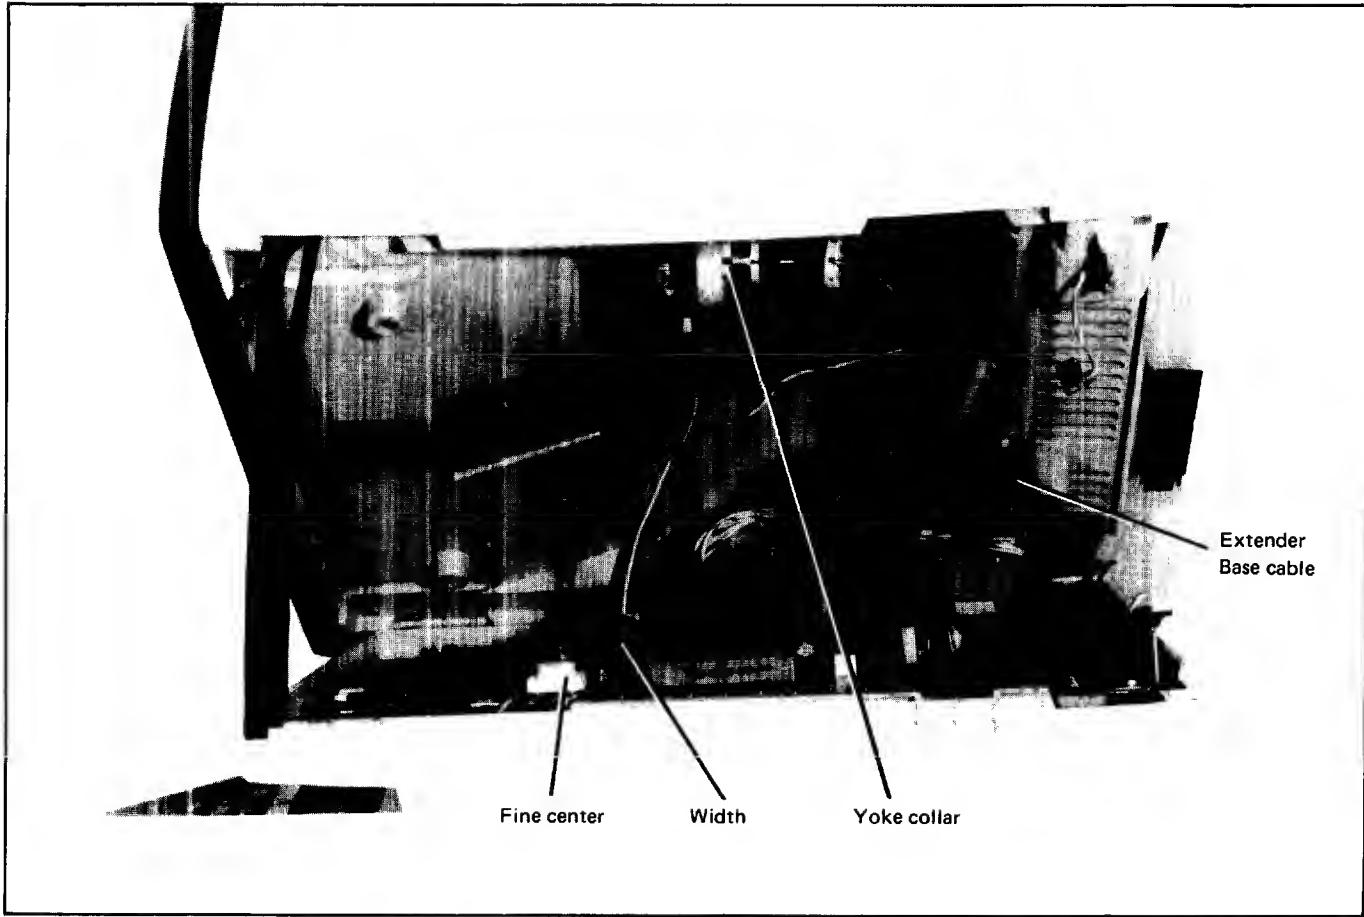
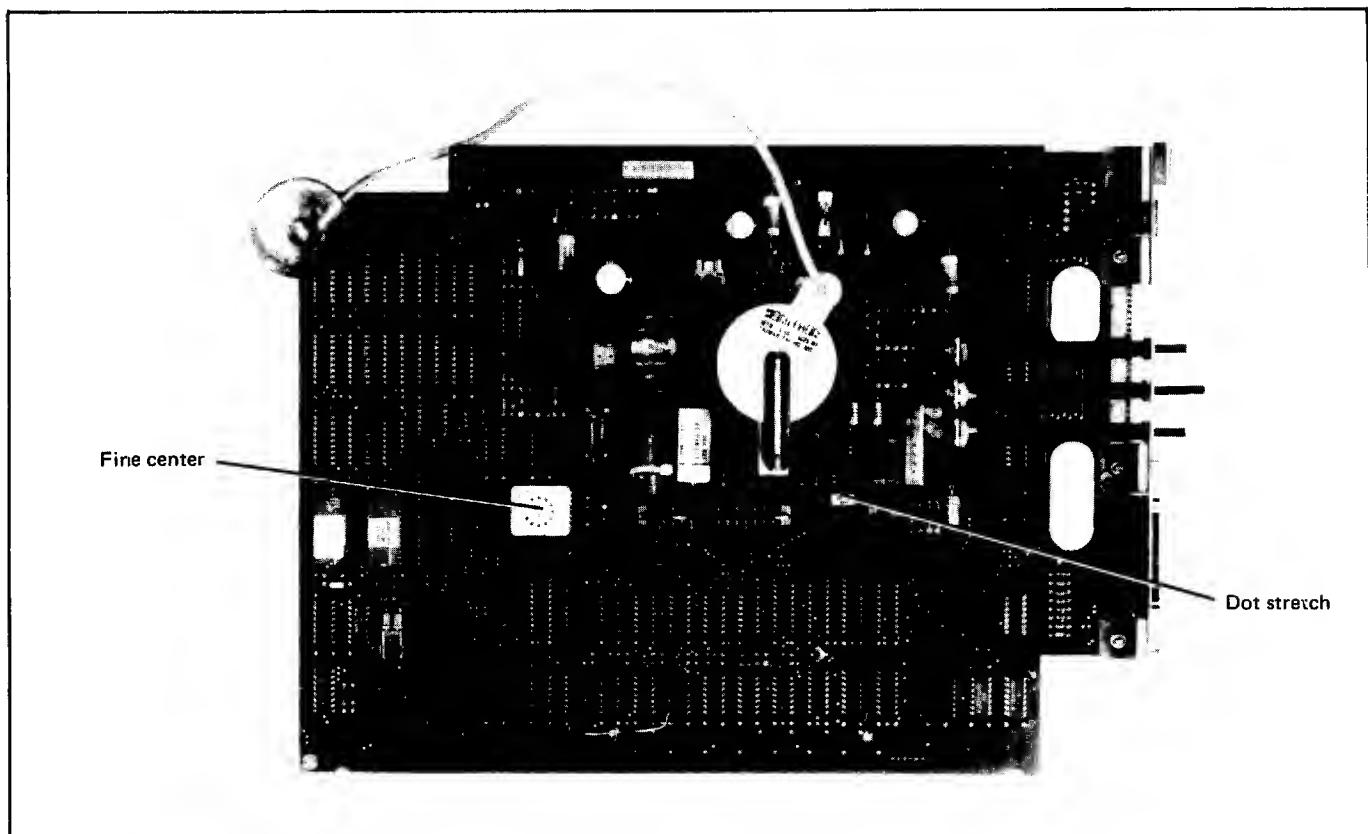

Figure 5-4 Location of Raster Width Ajudstment And Yoke Collar
Figure 5-5 Dot Stretch And Fine Center Adjustment
6. Use the alignment tool to adjust the width adjustment on the Processor PCA (fig 5-4) to expand or contract the display in the horizontal axis.
7. When needed, the rough centering of the display may be adjusted, by rotating the two centering magnets on the Yoke collar (Fig 5-4) ; once this adjustment is correct, a fine adjustment of the display in the horizontal plane can be performed, using the rotary switch (figure 5-5).
8. While observing the display, adjust the dot stretch adjustment (figure 5-5) on the Processor PCA to produce either uniform width of the vertical and horizontal lines which form a character or the most desirable overall display effect.
9. To adjust a tilted display; first loosen the yoke screw collar (see figure 5-4). The yoke assembly on the CRT neck must then be rotated using its plastic doughnut-shaped body. After making the adjustment retighten the yoke collar screw.